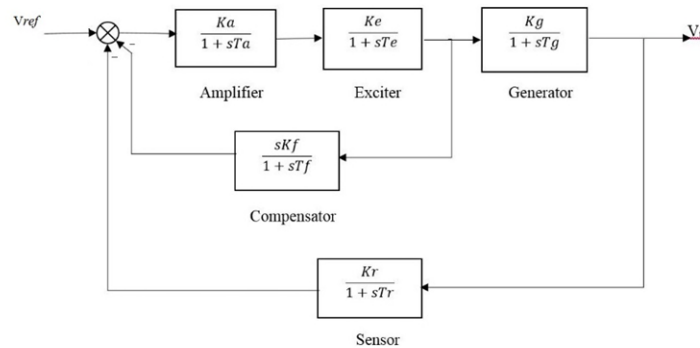

Figure 1: Block diagram of an excitation system with compensator
Figure 1 shows a block diagram of a typical excitation system with a compensator. The data pertaining to this system are given below.
2. Design the Compensated System (ie with the compensator): The excitation system is made stable for large values of  $K_a$  (say equal to 100) and achieve desired time domain performance requirements by adding a derivative feedback as shown in Fig. 1. Set  $K_f = 15$ . Determine the time domain performance of the system. Plot the step response of the closed loop system of the compensated system. Comment on the stability of the system with the compensator?